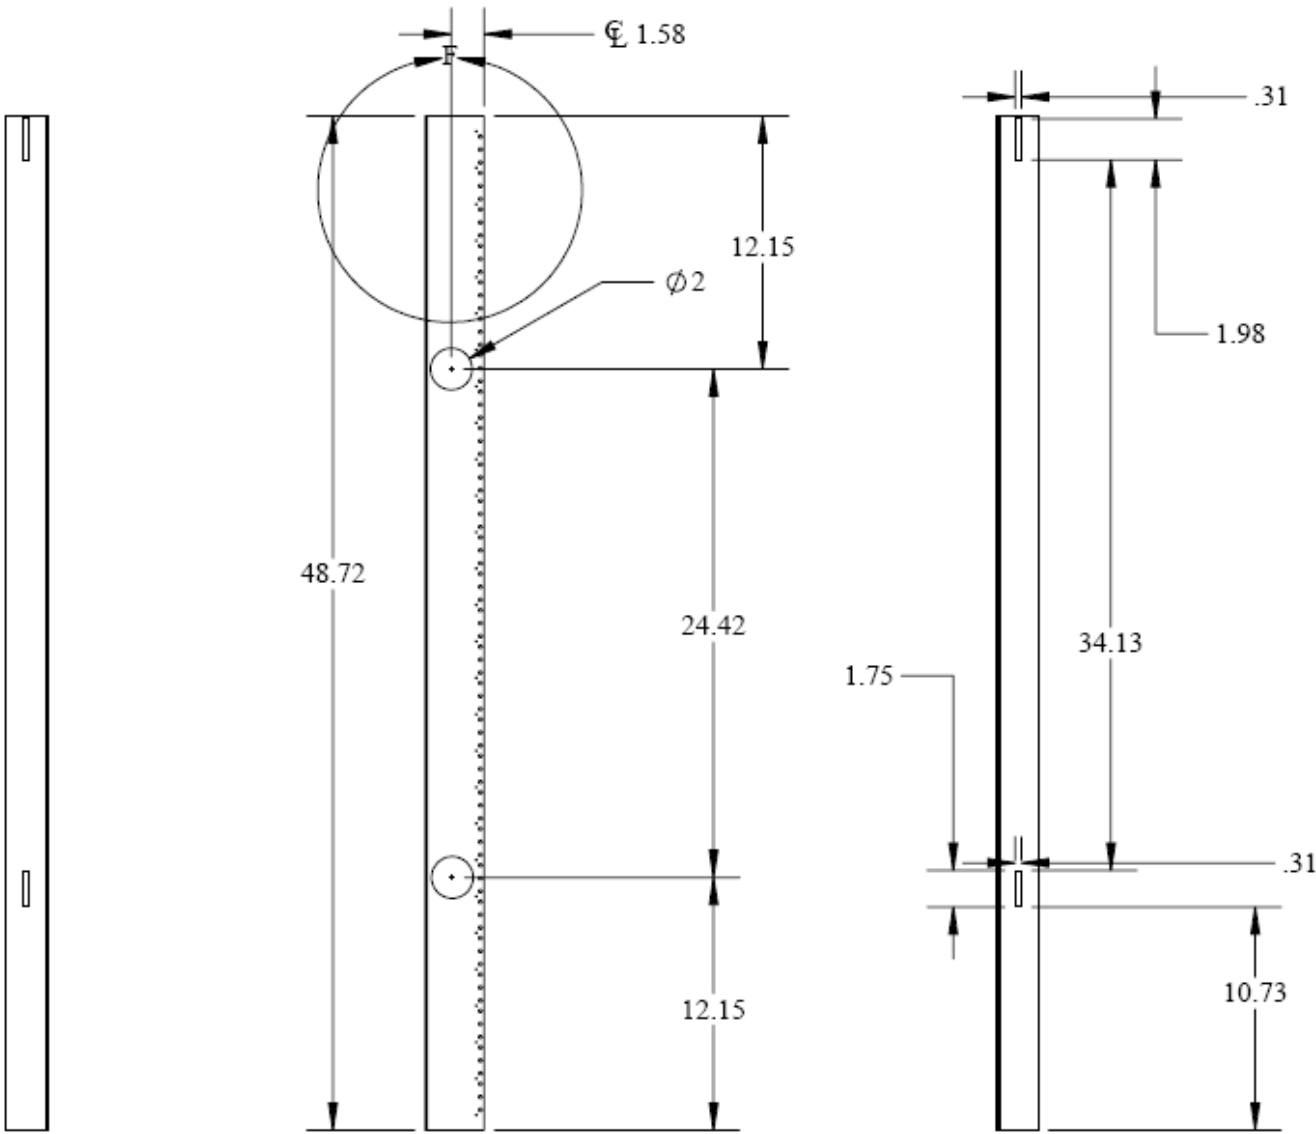

FIGURE 18: RACK RAIL DETAIL: PLEASE NOTE THAT DETAIL "F" IS ON THE FOLLOWING PAGE.
The LTE series has a direct air ventilated dual shelf battery compartment designed to hold up to strings of (4) 12v, 180ah VRLA Telecom batteries. The intake filter is mounted to the front door and the exhaust on the rear door. See FIGURE 18 for airflow detail. The battery compartment is ventilated with (2) 48v 110cfm fans. See fan detail below.